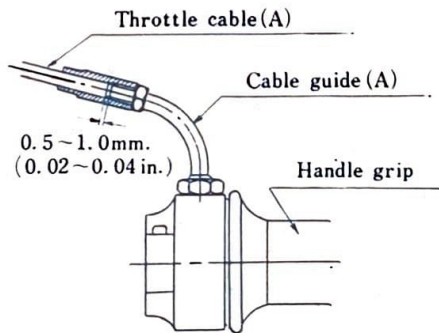

Fig. II-3-6
- b. Next adjust the throttle cable A so that the gap as shown in Fig. II-3-6 below will be between 0.5 and 1.0mm. (0.02~0.04 in.)